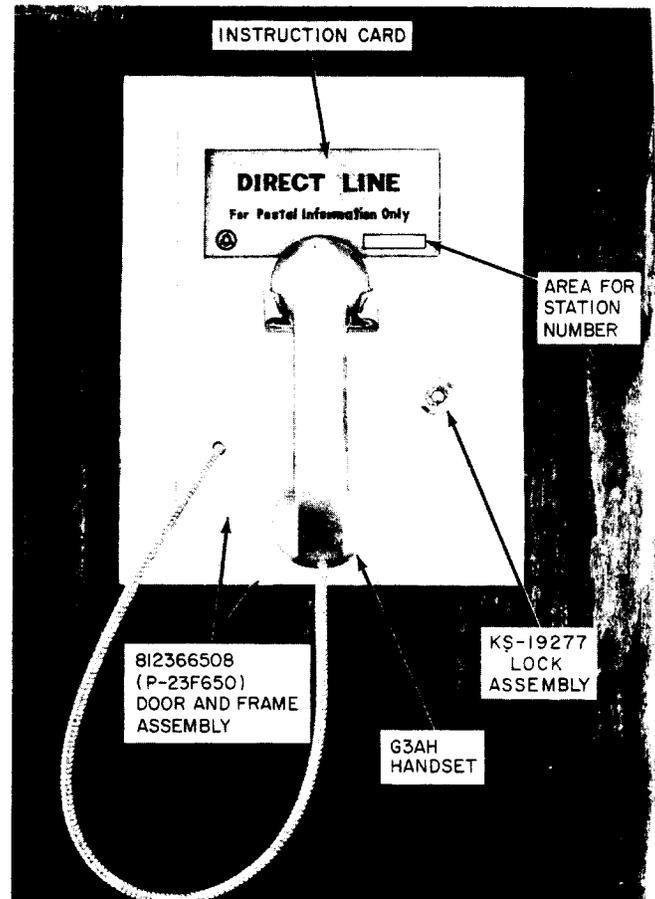

Fig. 1—755AM Telephone Set
- 2.02** The 755A and 755AM telephone set is a single line, manual, panel-type instrument (Fig. 1).